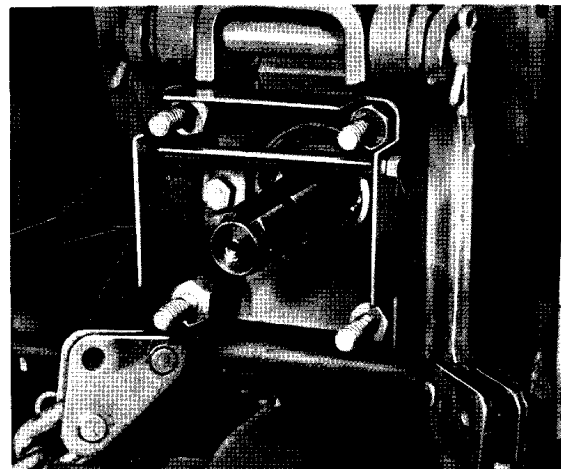

FIG. 10
BELT PULLEY (Figs. 10 and 11)
5. Fig. 10. Fit the p.t.o. guard (1) and tighten the securing bolt (2).